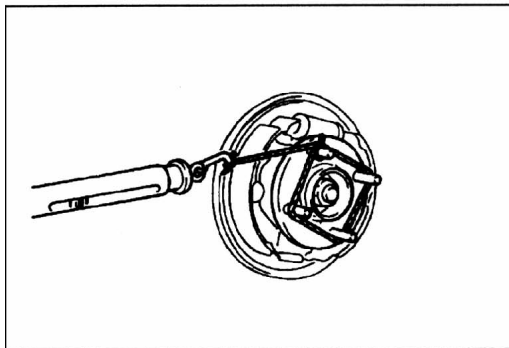

Fig.13-2
- (1) remove the brake dume.
- (2) After turning the hub a few times to seat the bearing, wind a rope around the hub bolt and turn the hub by pulling at a 90 angle with a spring balance. Measure to determine whether or not the rotary-sliding resistance of the rear hub is at the limit value.(see Fig.13-2)。